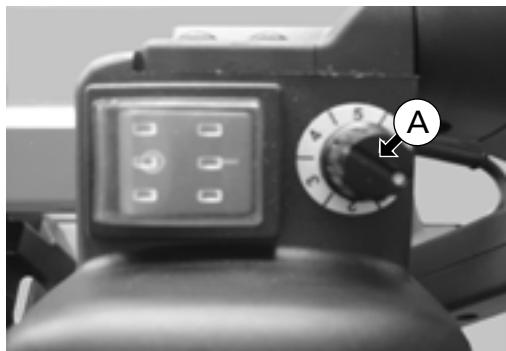

Fig. 13
To change the cutting blade speed, turn the operating control (A) to the speed you need (between "1" and "6" from the lowest to the highest speed) - (Fig. 13, 14).
Elements of Fig. 13 - 14